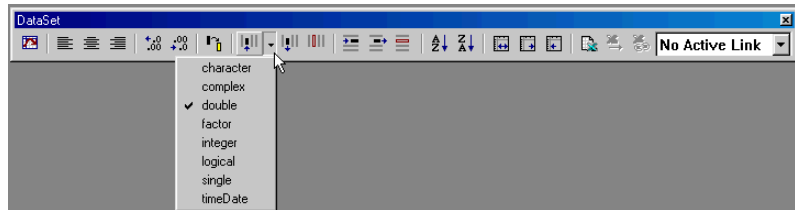

Figure 2.22: *Inserting a column of a specific type.*
- Click in the column you want to have shifted to the right to make room for the new column. To insert a new column of the default type, or of the same type as the last new column inserted, click the **Insert Column** button  on the **Data** window toolbar. To insert a new column of a specific type, click the column type selector arrow located to the right of the **Insert Column** button (see Figure 2.22) and select the type of column you want to insert.